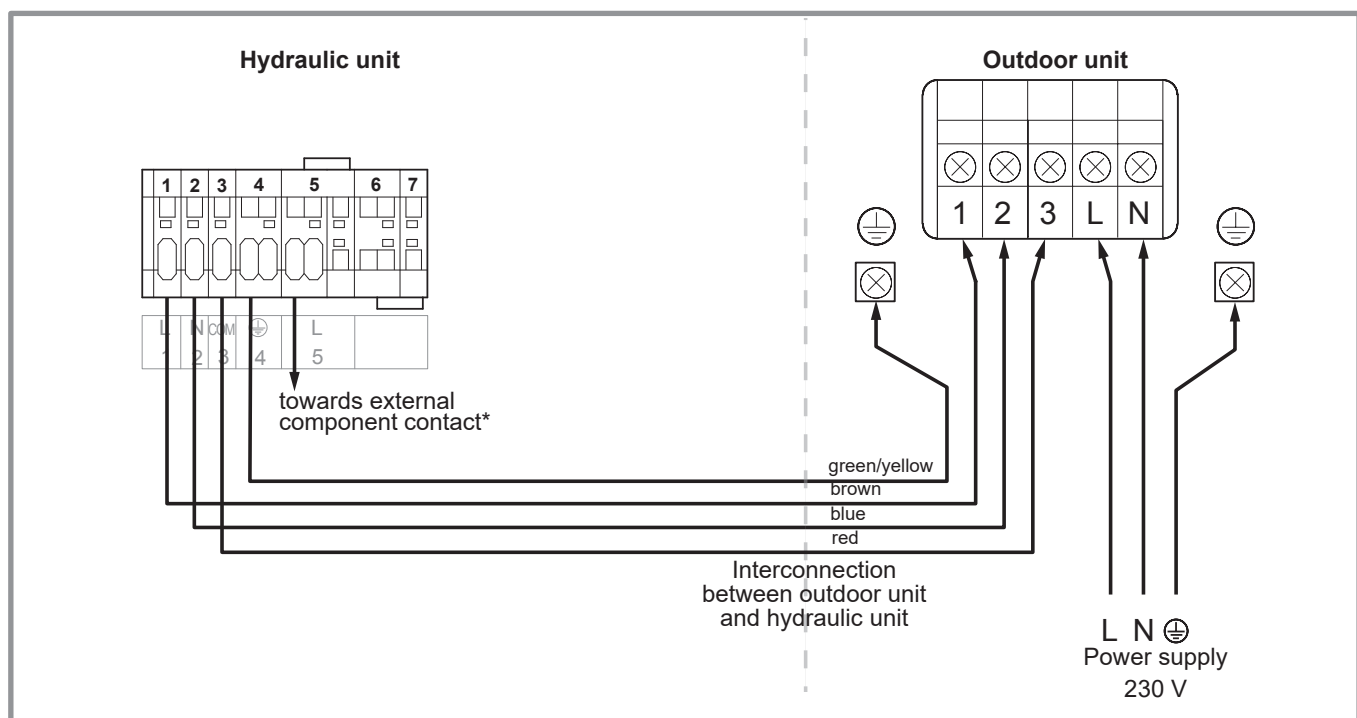

figure 38 - Connection to terminal blocks and power relay
- Make the connections according to the diagram (figure 38, page 42).
- Make the connections according to the diagram(s) **figure 38, page 42.**